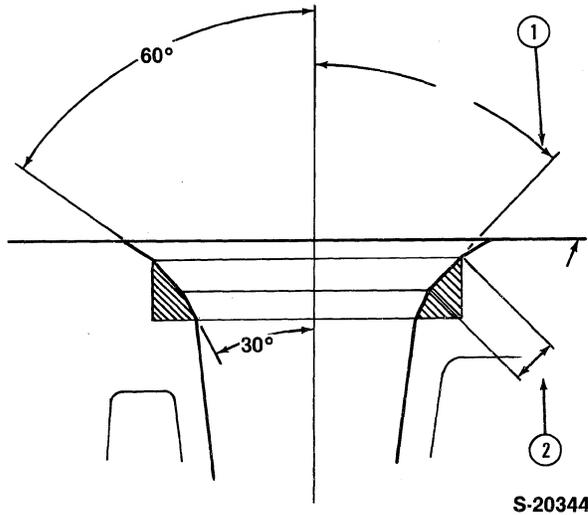

Figure 13
6. Check the width of the valve seat inserts and, if necessary, reface by grinding to the dimensions shown in Figure 13.